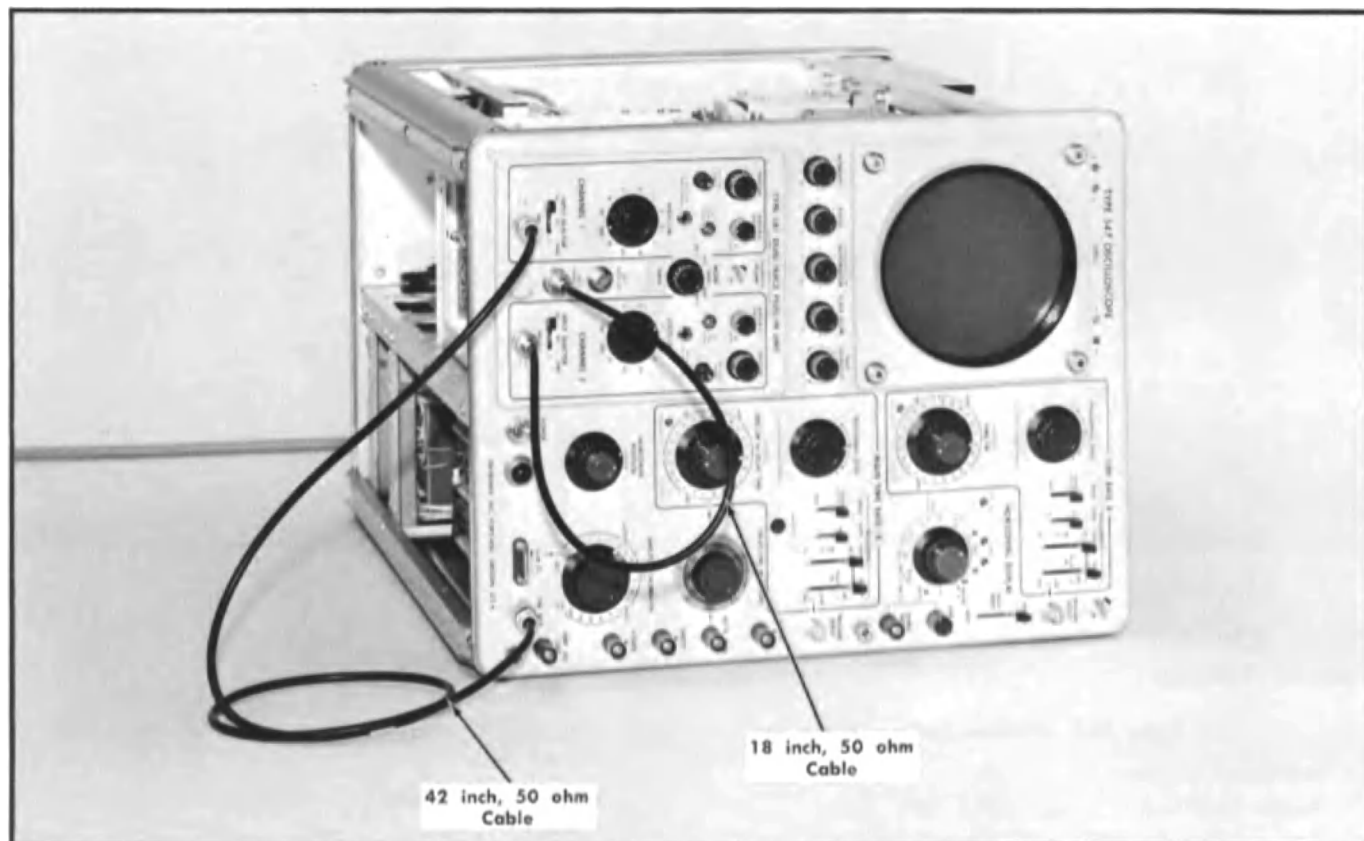

Fig. 7-21. Equipment setup for step 19.
a. Test equipment setup, with connections made at completion of step 19b, is shown in Fig. 7-21.